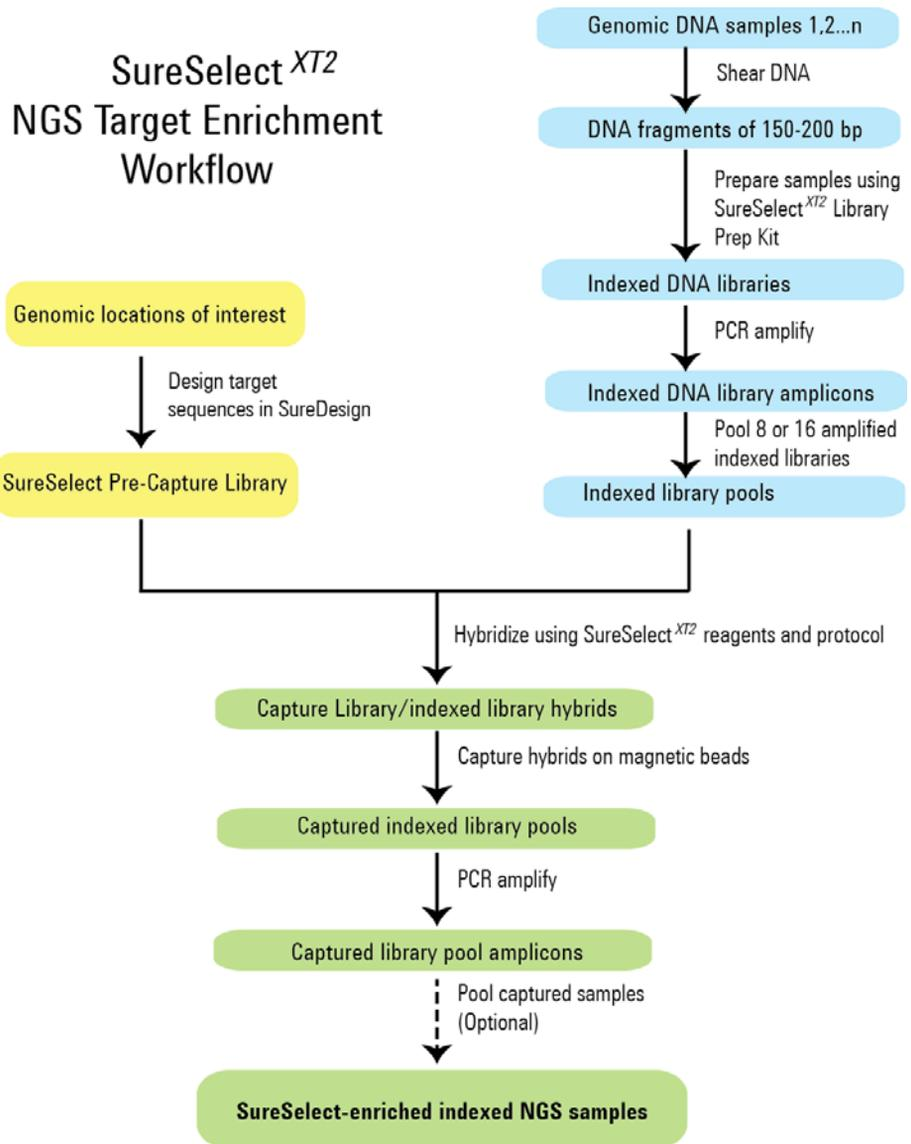

Figure 2 Overall sequencing sample preparation workflow.
Figure 2 summarizes the SureSelect^{XT2} pre-capture indexing and target enrichment workflow. For each sample to be sequenced, an individual library indexing reaction is performed. Indexed libraries are then pooled for hybridization and capture steps, using a pooling strategy appropriate for the size of the Capture Library and the sequencing design.
Indexed DNA samples are pooled before the hybridization step (see Figure 2) and captured DNA samples may be pooled again when preparing samples for sequencing. It is important to develop a pooling strategy that is compatible with the specific Capture Library sizes and sequencing goals of the experiment using the following considerations:
- At the hybridization step (see Figure 2), you can add a different SureSelect or ClearSeq Capture Library to different rows or columns of the plate. See page 28 for guidelines on selecting the appropriate hybridization run configuration. Plan your experiment such that each indexed DNA library is placed in a pool in the row or column of the sample plate that corresponds to the appropriate Capture Library for hybridization.
- For post-capture amplification (see Figure 2), different Capture Libraries can require different amplification cycle numbers, based on sizes of the captured targets. It is most efficient to process similar-sized Capture Libraries on the same plate. See Table 57 on page 112 to determine which Capture Libraries may be amplified on the same plate.